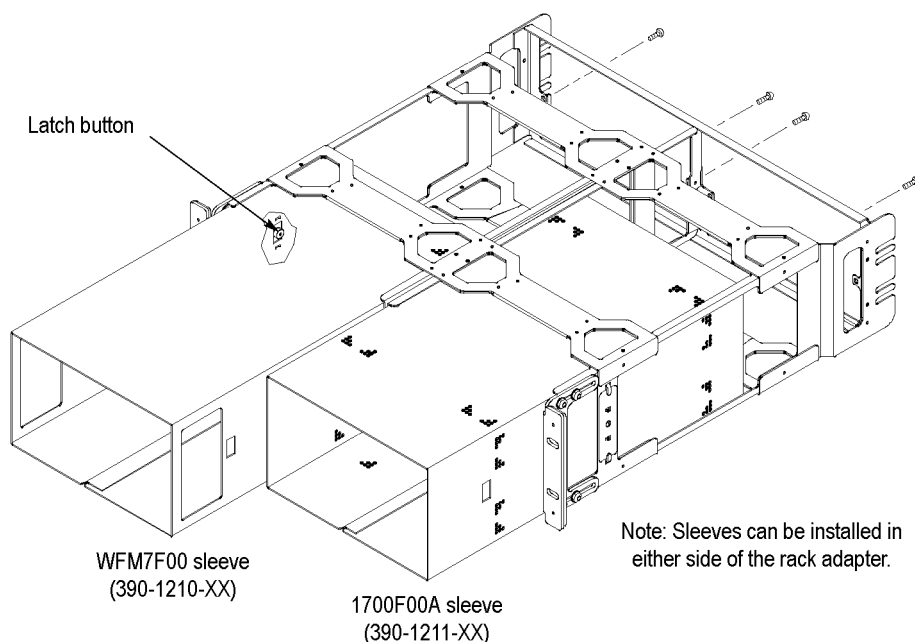

Figure 10: Installing the sleeves into the rack adapter. Only two sleeve types are shown in this example.
2. Slide the sleeve into the desired half of the rack adapter, depressing the button on the inside front of the rack adapter as needed to insert the sleeve. (See Figure 10.)